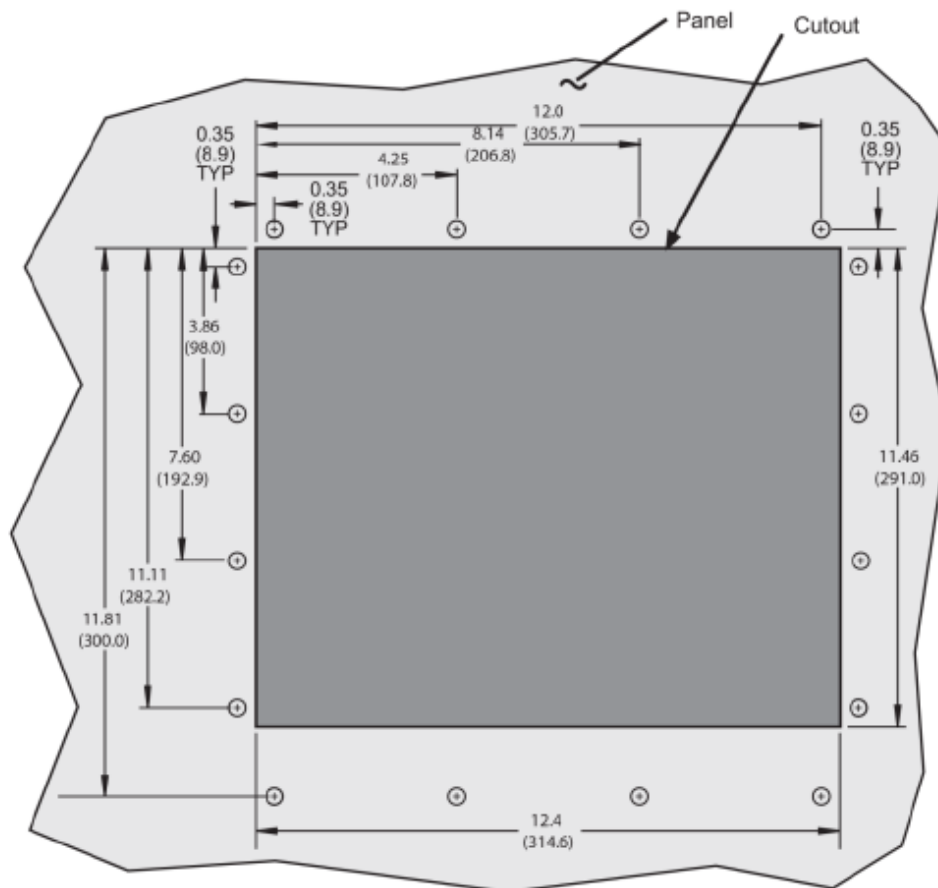
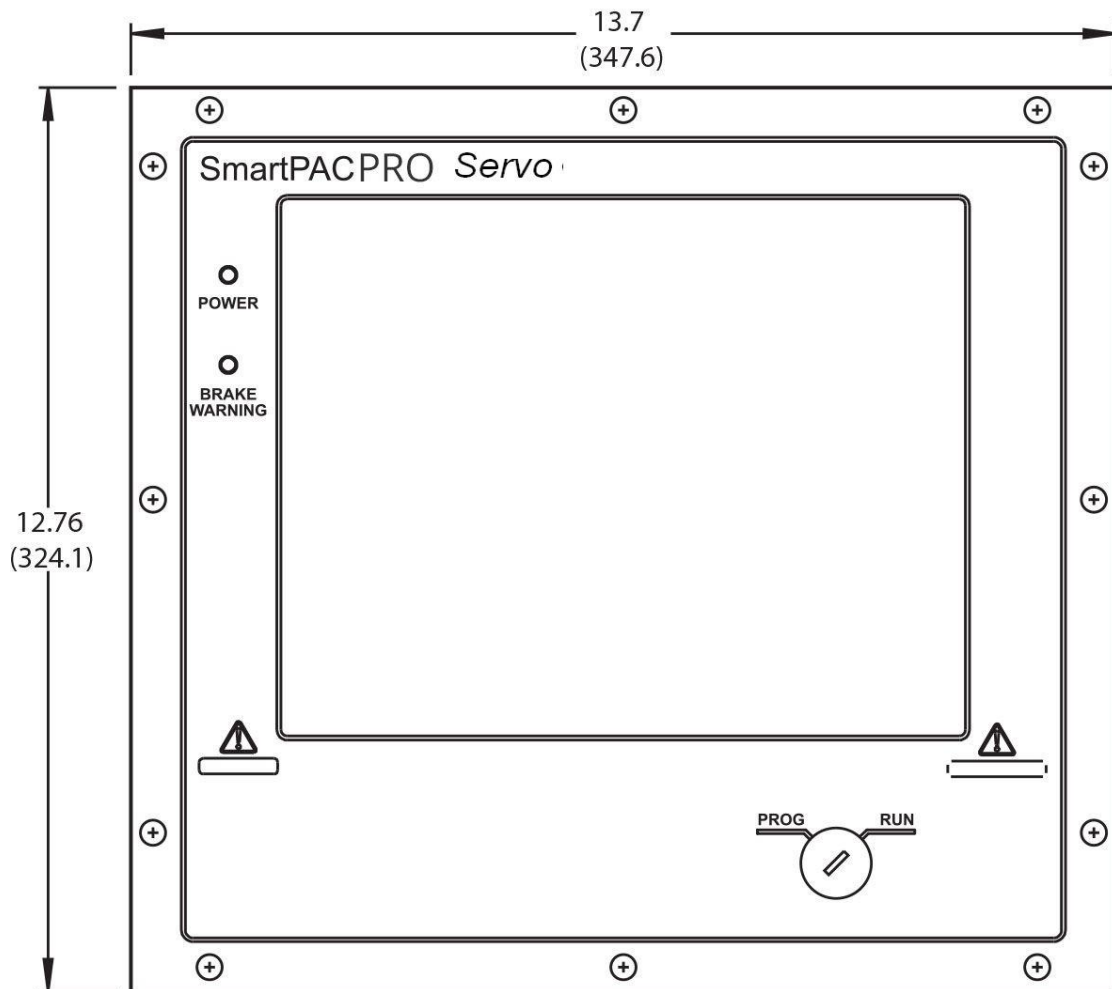

Figure 2-3. SmartPAC PRO Servo Panel Mount Cutout Dimensions
Figure 2-4. SmartPAC PRO Servo Panel Mount Dimensions
2. Cut out a hole in your enclosure, and drill and tap twelve holes for #10-32 screws, referring to Figure 2-3 and Figure 2-4, below for cutout and mounting dimensions.